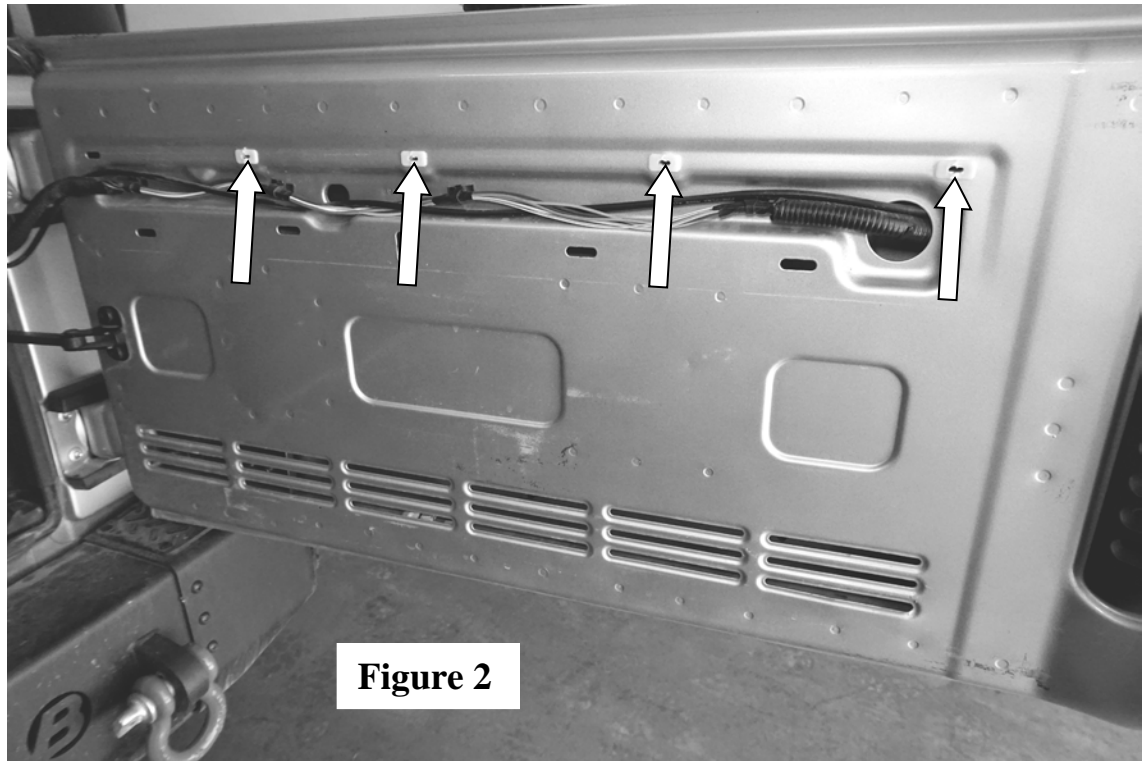

Figure 2
3. Install (4) #11.1 Plastic Inserts(found in the key bag) into the upper-right most holes, as shown in Figure 2.